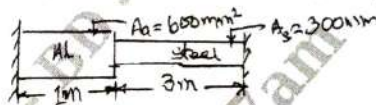

Fig.Q.2(b)
b. A composite bar is rigidly fitted at the supports A and B as shown in the Fig.Q.2(b). Determine the reactions at the supports when temperature rises by 20°C. Take $E_a = 70 \text{ GN/m}^2$, $E_s = 200 \text{ GN/m}^2$, $\alpha_a = 11 \times 10^{-6}/^\circ\text{C}$ and $\alpha_s = 12 \times 10^{-6}/^\circ\text{C}$. (10 Marks)